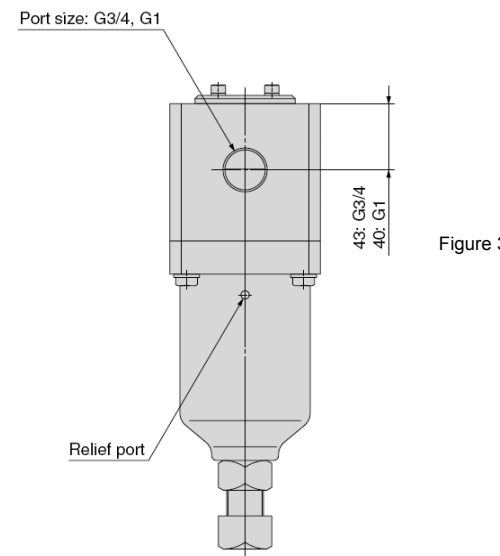

Figure 3
- Air will be released from the relief/vent ports when the 'OUT' port pressure is above the set point. Ensure that the air jet, volume of air and noise does not cause a hazard. See Figure 3.
- The outlet pressure is set by rotating the adjusting bolt, at the bottom of the regulator. See Figure 3. Loosen the locknut first.